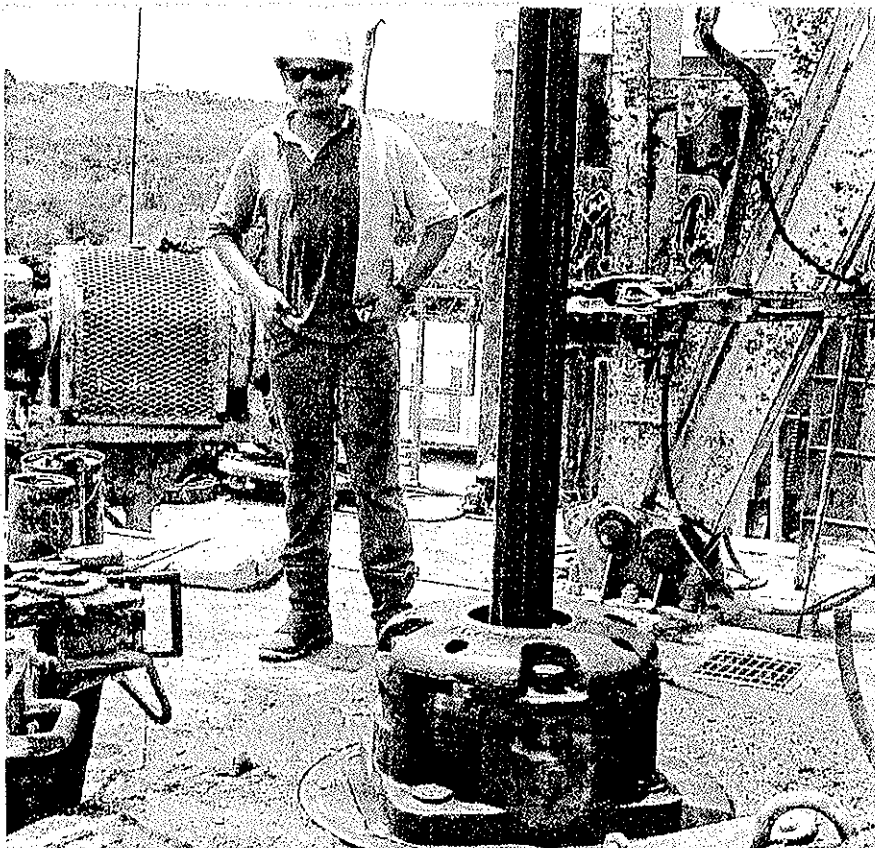

Fig. 11-2. A roughneck takes a break
- *Roughneck*—one of several crew members working on the floor of the rig, making drill pipe connections during trips; while drilling, will use the hoisting apparatus to pick up additional joints of drill pipe (fig. 11-2).